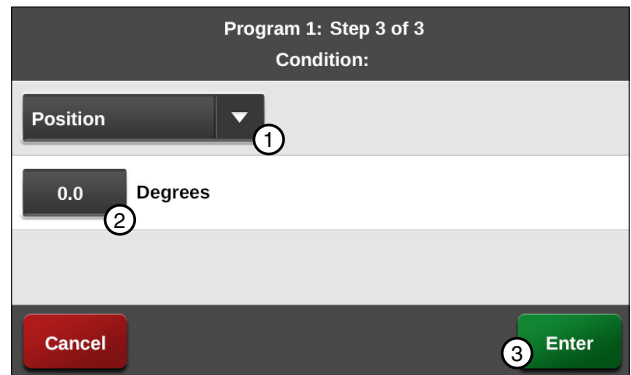

Figure 133-3 1. Position Condition 3. Enter
- a) Select the **Choose Condition** drop-down menu and choose **Position**. Refer to Figure 133-3.